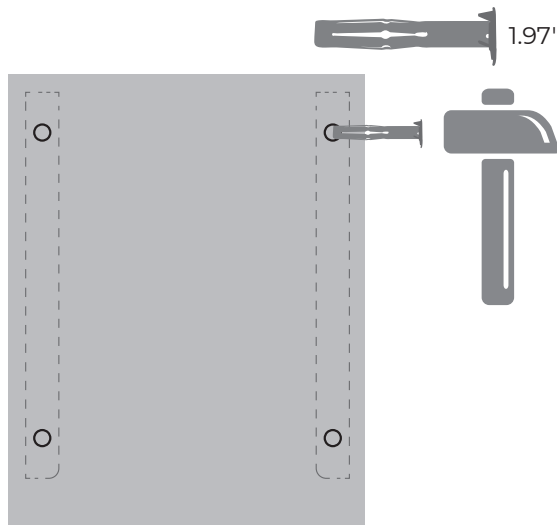

Fig. 5.4.6
3. Hammer the expansion sleeve into the corresponding hole (See Fig. 5.4.6)